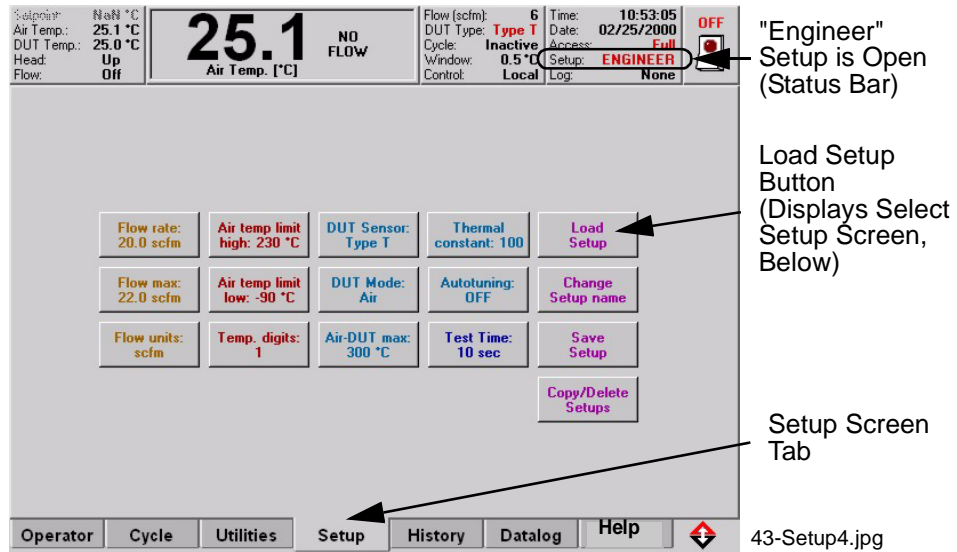

Figure 6-1. Load Test Setup (Setup Screen)
Load, Run, a Test Setup (see Figure 6-1. on page 24)
1. Press the *Setup Screen* Tab to display *Setup Screen* (see Figure 6-1. on page 24).